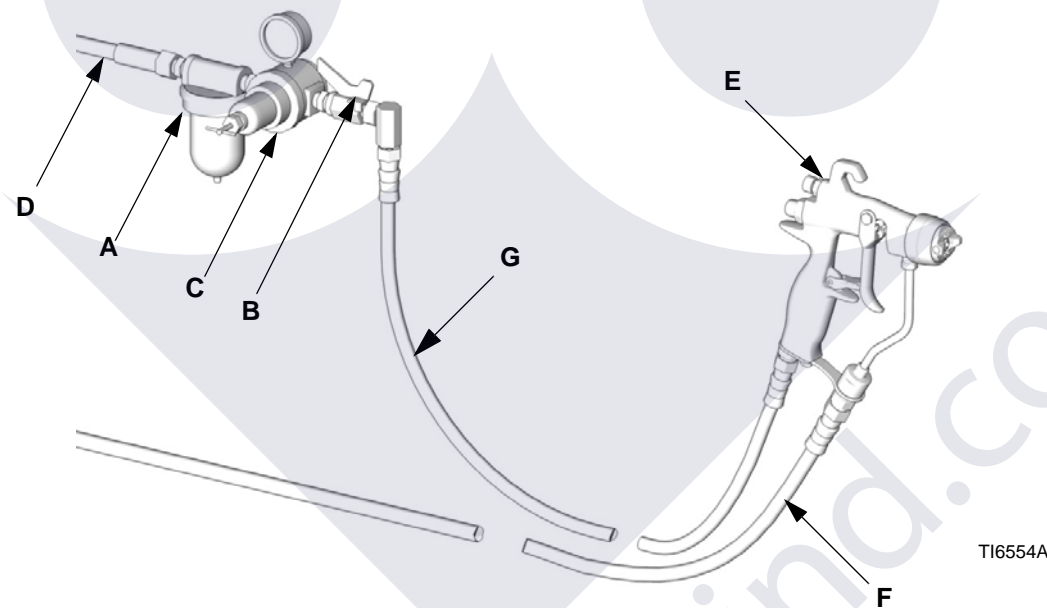

FIG. 1: Typical Installation (Model G15 Shown)
NOTE: The typical installation shown in FIG. 1 is only a guide for selecting and installing air-assisted spray systems. Contact your Graco distributor for assistance in designing a system to meet your needs.
1. Install an air filter (A) on the gun air line to ensure a dry, clean air supply to the gun. Dirt and moisture can ruin the appearance of your finished workpiece. See FIG. 1.
2. Install an air pressure regulator (C) on the gun air line to control air pressure to the gun.
3. Install an air shutoff valve (B) on the gun air line and on the pump air line, to shut off air to the gun.